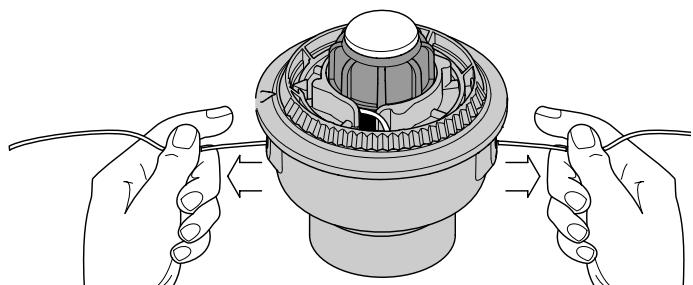

Fig. 17
9. If winding the line becomes difficult or if the line jams, pull the ends of the line from the spool (Fig. 17). Continue winding the inner reel counterclockwise.